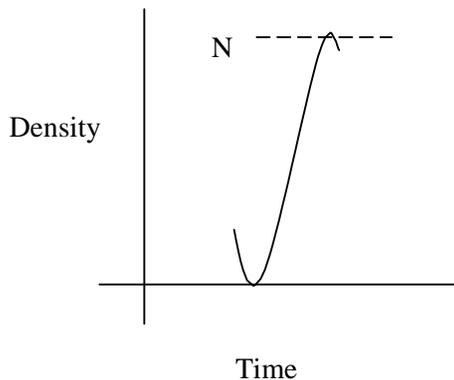

Fig. 1a. J- shaped growth form
- i. J- shaped growth form (Fig 1a)
In the J - shaped growth form, the population density increases in exponential or geometric fashion; for example 2,4,8,16,32 ... and so on until the population runs out of some resource or encounters some limitation (limit N, Fig 1a). Growth then comes to a more or less abrupt halt and density declines rapidly. Populations with this kind of growth form are unstable. Their reproductive rate is high and survival rate is less and so they are r strategists. Factors other than density regulates the population.(eg; Aphids).